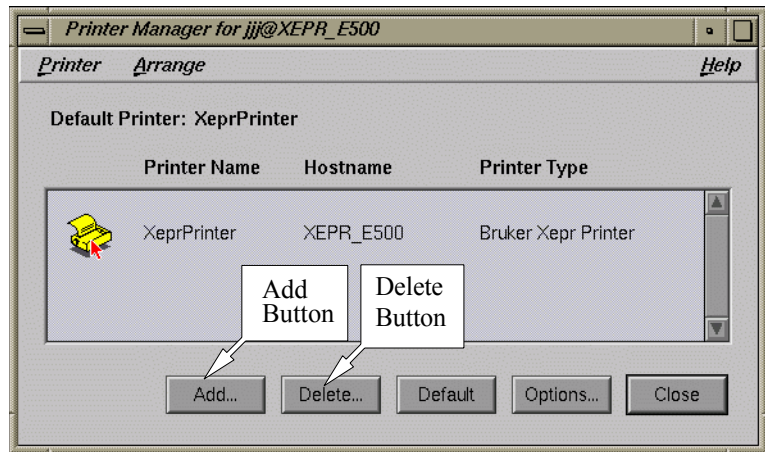

Figure 15-12 The Printer Manager dialog box.
2. **Delete the printer that does not work.** If there is a listed XeprPrinter that does not work, select it by clicking its icon with the left mouse button and then click the Delete button. (See Figure 15-12.) If you did not log in as root or a privileged user, you will be requested to enter the root password.